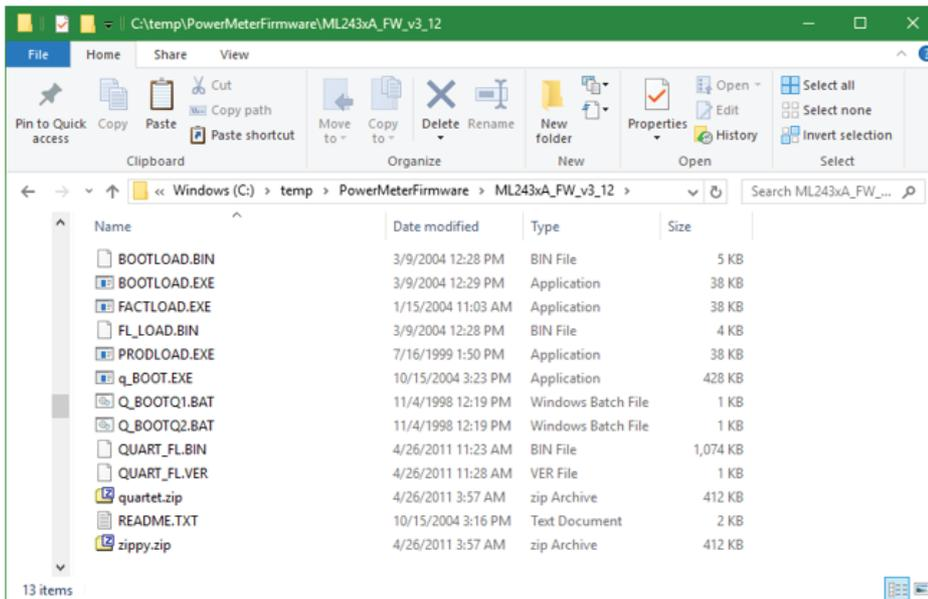

Figure 5-2. Zip File Contents
3. Unzip the file into an empty folder, for example C:\temp\PowerMeterFirmware, the contents of the zip file will look similar to Figure 5-2.